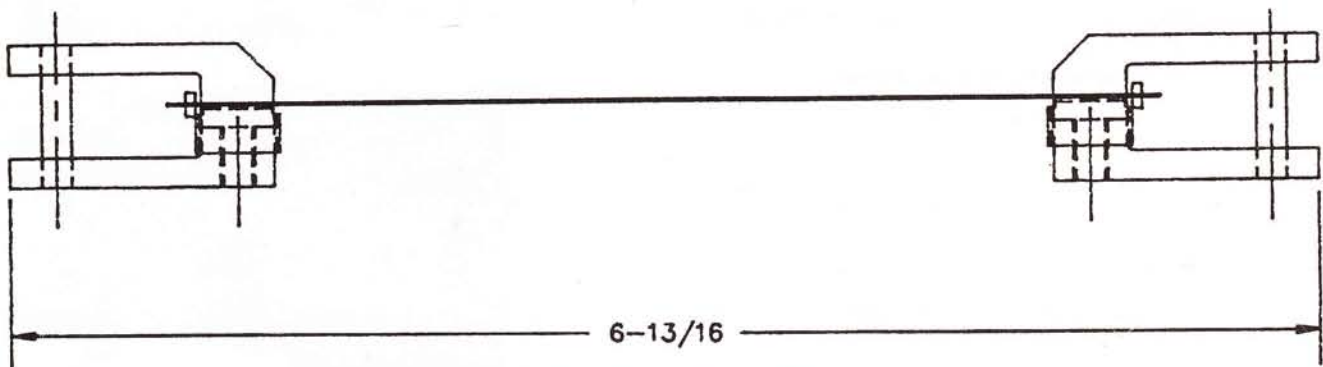

Fig. 3
4. Lay the assembly on a flat surface with the upper holder to your left, (See Fig. 3).
6. Install the new blade with the cutting edge up and the points toward your right. If installing a 5" pin blade the pins should be against the inner surface of the holder, (See Fig. 3), and if installing a plain end blade let the ends extend beyond the holder equal amounts on each end